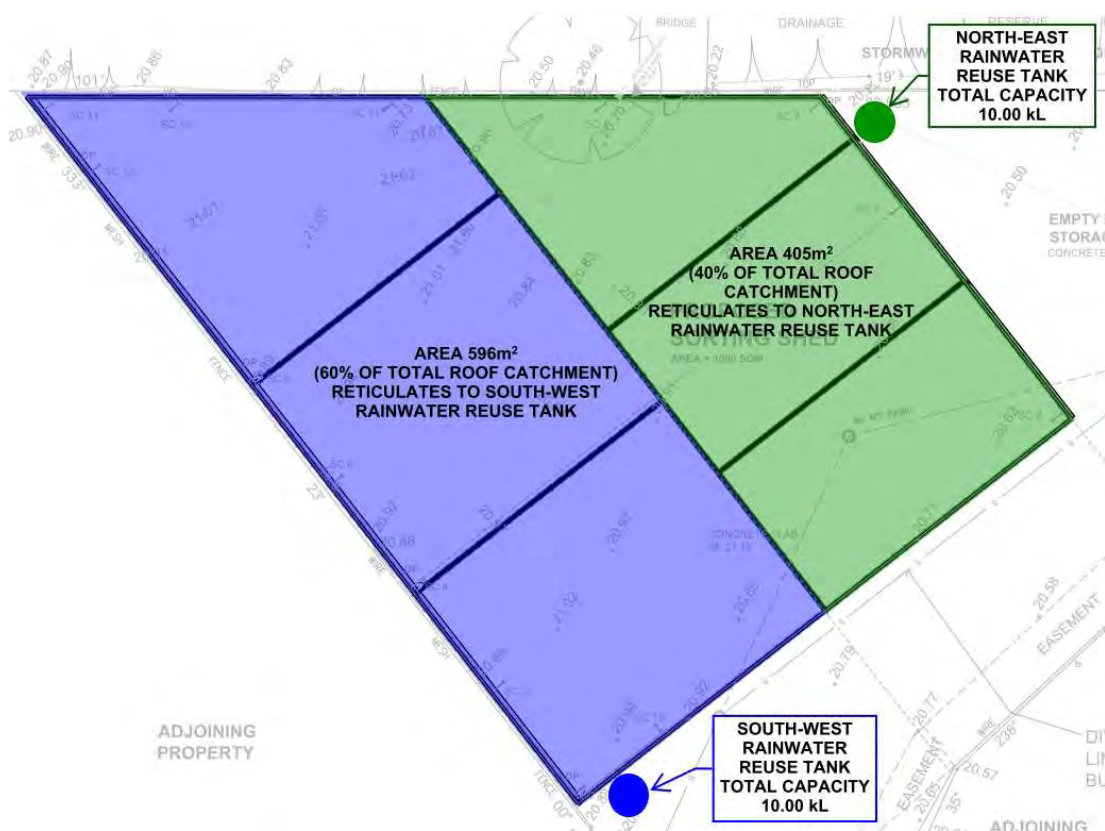

Figure 2: Rainwater Reuse Tank Location Plan
The stormwater runoff from the roof of the proposed shed will be captured by a 300mm wide box gutter along the south-west side and by a 200mm diameter half-pipe eaves gutter on the north-east side. All stormwater runoff will be connected into two (2) 10,000L rainwater re-use tanks which will each incorporate a first flush device. The rainwater collected by the tanks will be recycled and used for dust suppression purposes in the factory and yard. The rainwater re-use tanks will be located at the south-west corner and the north-east corner of the proposed shed. Please refer to Figure 2 below for the locations of the rainwater re-use tanks. A 225mm diameter overflow pipe will connect each rainwater re-use tank to the proposed stormwater system and discharge to the stormwater channel. Please refer to *Schedule 3 WS&P Design Drawings*.